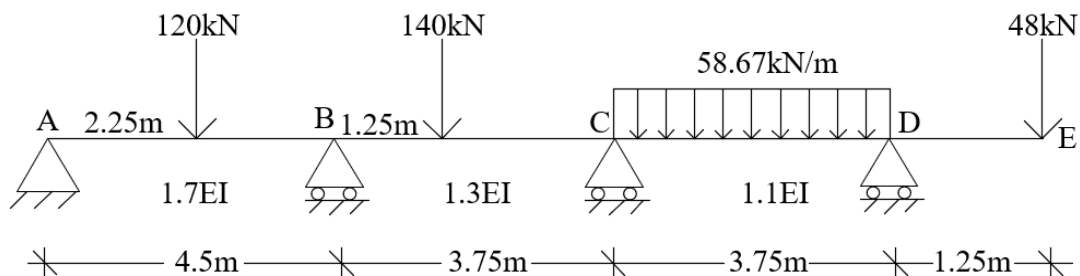

Fig. 3
- b) Analyse the continuous beam shown in Fig. 3 by moment distribution method (8)